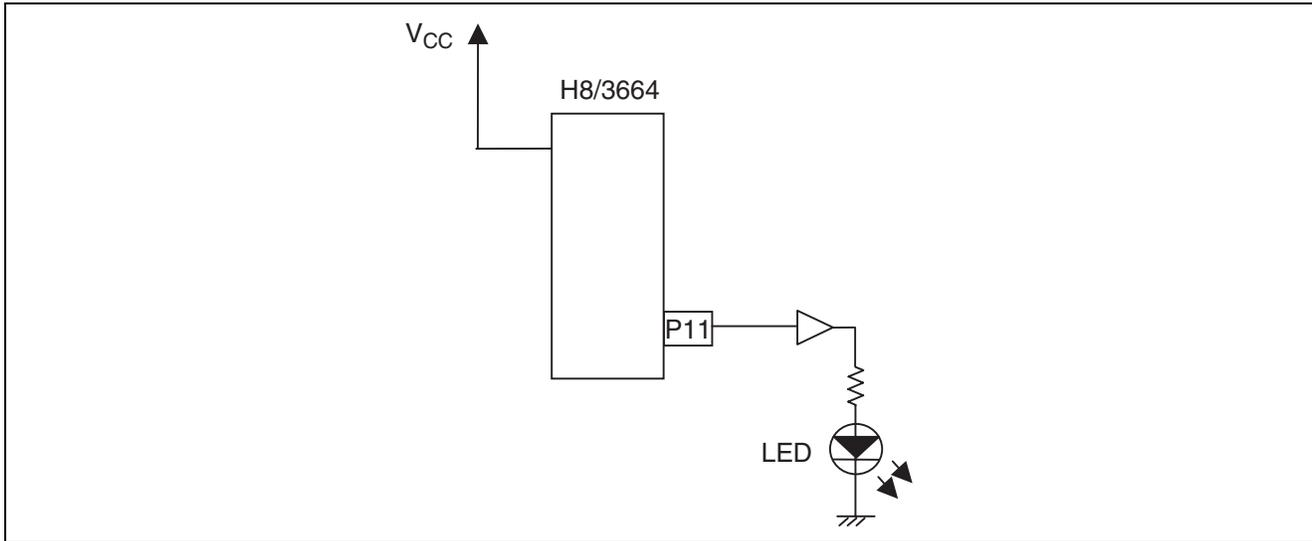

Figure 1 Example of Connecting an LED to the I/O Output Pin
- Connect an LED to P11 as shown in Figure 1.